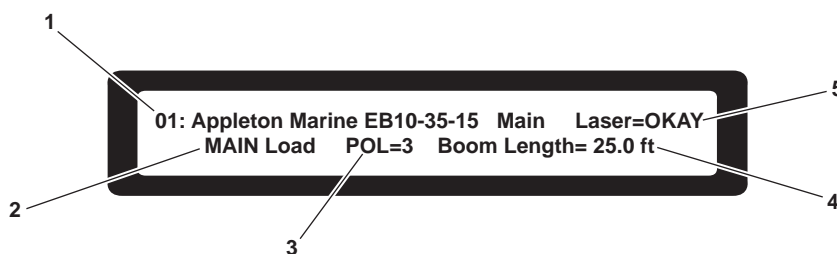

Figure 15. Load Chart in Use Screen
2. Access the load chart in use display screen (figure 15) by pressing the down arrow button (figure 2, item 4) on the LMI receiver panel (figure 2, item 2) once while in the primary operating screen (figure 10).
3. The load chart in use display screen (figure 15) will display the information contained in table 2.
Table 2. Load Chart In Use (refer to figure 15)